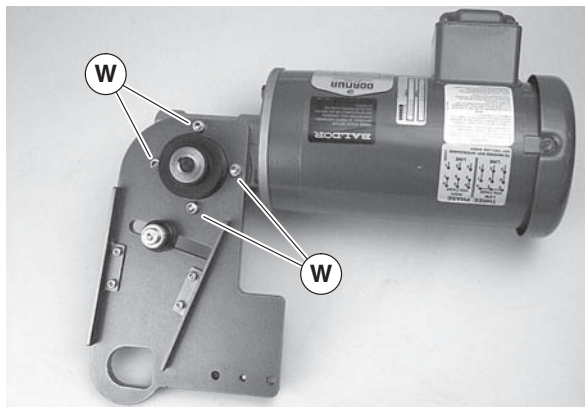

Figure 4
2. If required, change gearmotor position by removing four (4) screws (Figure 4, item W). Rotate gearmotor to other position and replace screws (W). Tighten to 103 in-lb (12 Nm).